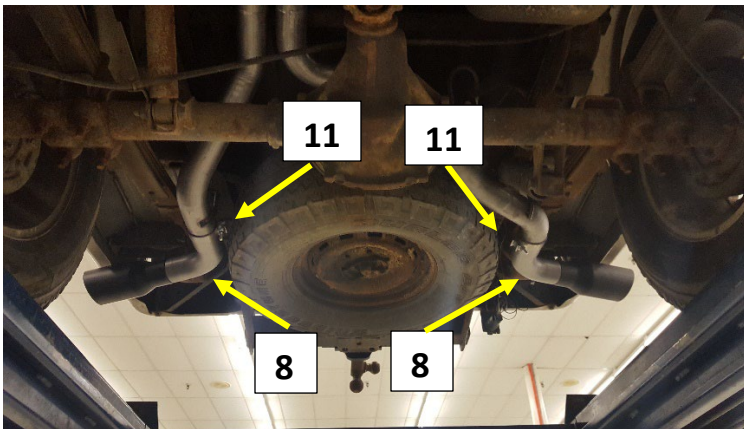

Figure.9
1. Install the 26972S side exit pipes **(8)** on to the tail left and right pipe. Install a 3" band clamp **(11)** on to the pipes with the bolt at the top and the nut facing the inside. Tighten the clamp to allow for adjustment. **Fig.9**
2. Install the supplied tip and adjust to personal preference before tightening the clamps on the exit pipe and tip. **Fig.9**